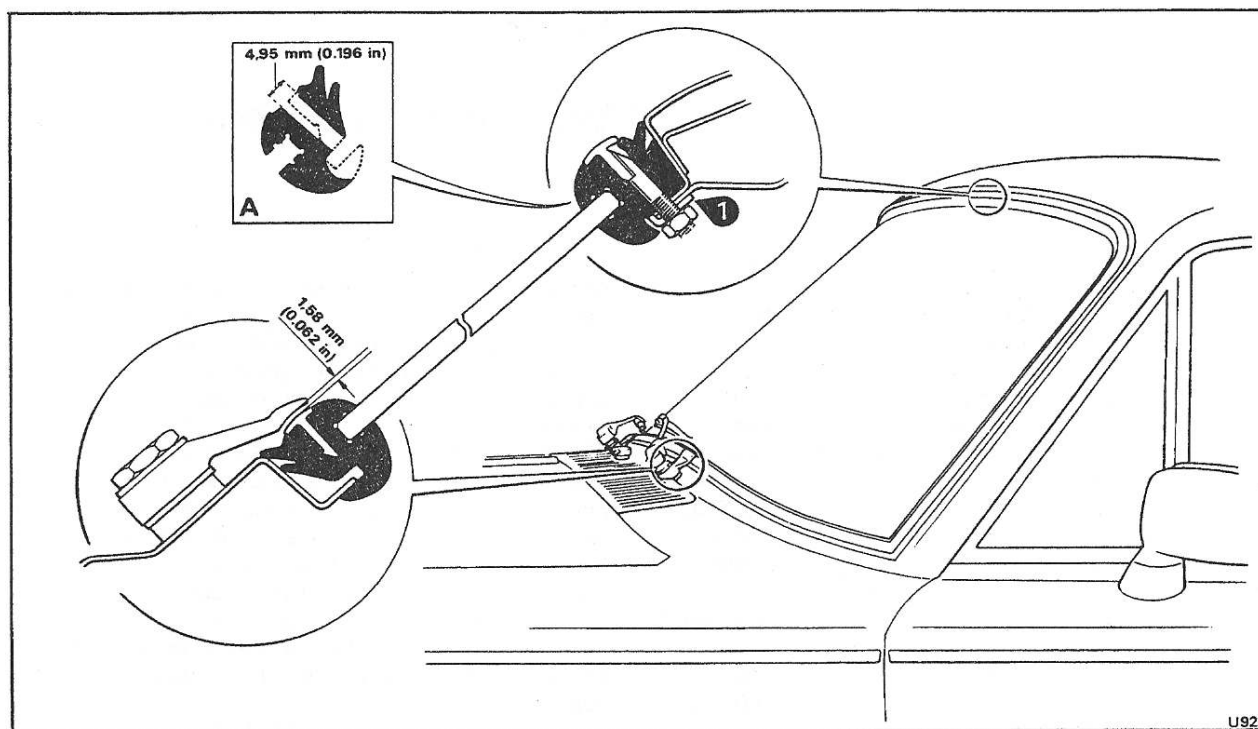

Fig. S132 Windscreen retention (Silver Shadow II, Bentley T2 and Silver Wraith II)
reinforcement plates from above the windscreen (see Fig. S132).
If a new seal is being fitted, mark and drill two 4,95 mm. (0.196 in.) diameter holes through the seal to accept the windscreen retention studs then mark and cut the rear of the seal to clear the stud reinforcement plates (see Fig. S132, inset A).
15. Fit a reinforcement plate over each stud with its flange seated on the edge of the windscreen aperture (see Fig. S132, item 1).
18. From the outside of the windscreen, fit the chromed windscreen retention plates onto the wiper spindles using two washers to each spindle. The washers should be positioned to ensure that the gap between both plates and the windscreen finisher is the same and is clear of the finisher with a maximum permitted gap of 1,58 mm. (0.062 in.); refer to Figure S132.